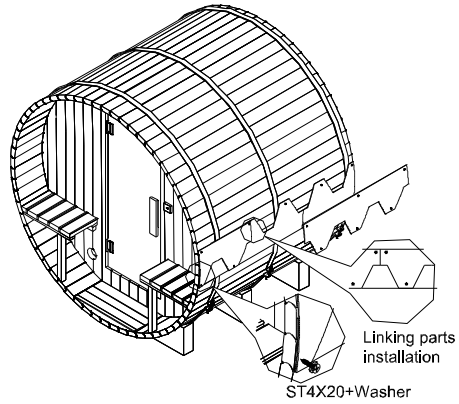

Figure 2
- (3) The teeth of the second-layer tiles should be Assembled downwards, covering the first layer tiles and fasten them with screws. (shown in Figure 2)